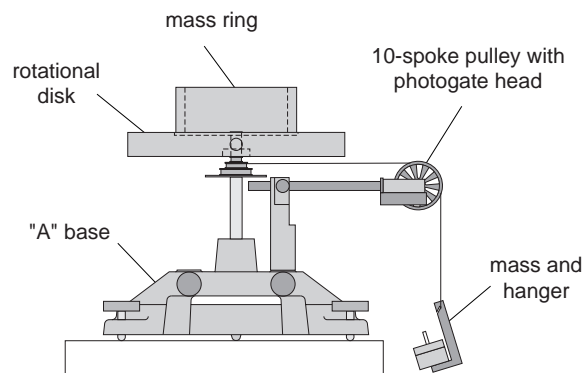

Figure 5.4: Set-up for Disk and Ring
- ① Remove the track from the Rotating Platform and place the disk directly on the center shaft as shown in Figure 5.4. The side of the disk that has the indentation for the ring should be up.
- ② Place the ring on the disk, seating it in this indentation.
- ③ Mount the Smart Pulley to the base and connect it to a computer.
- ④ Run the Smart Pulley Timer program.